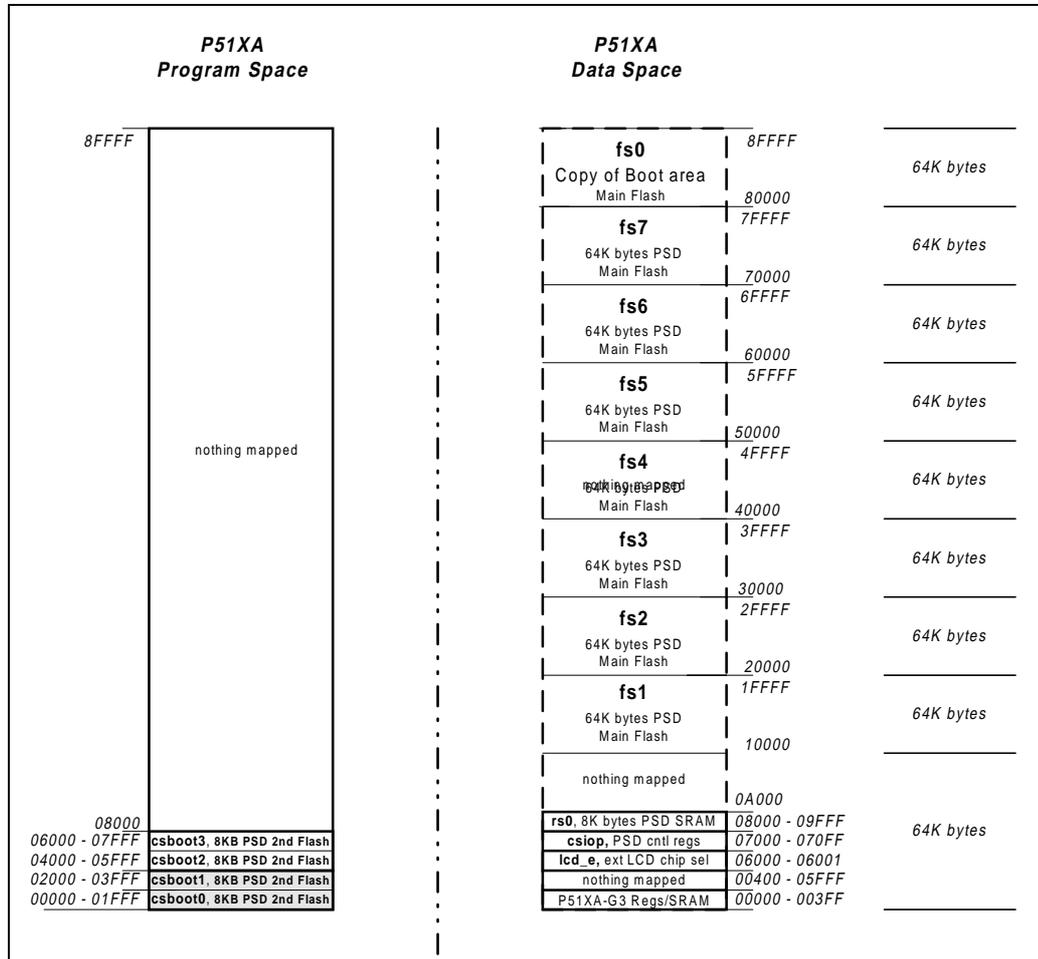
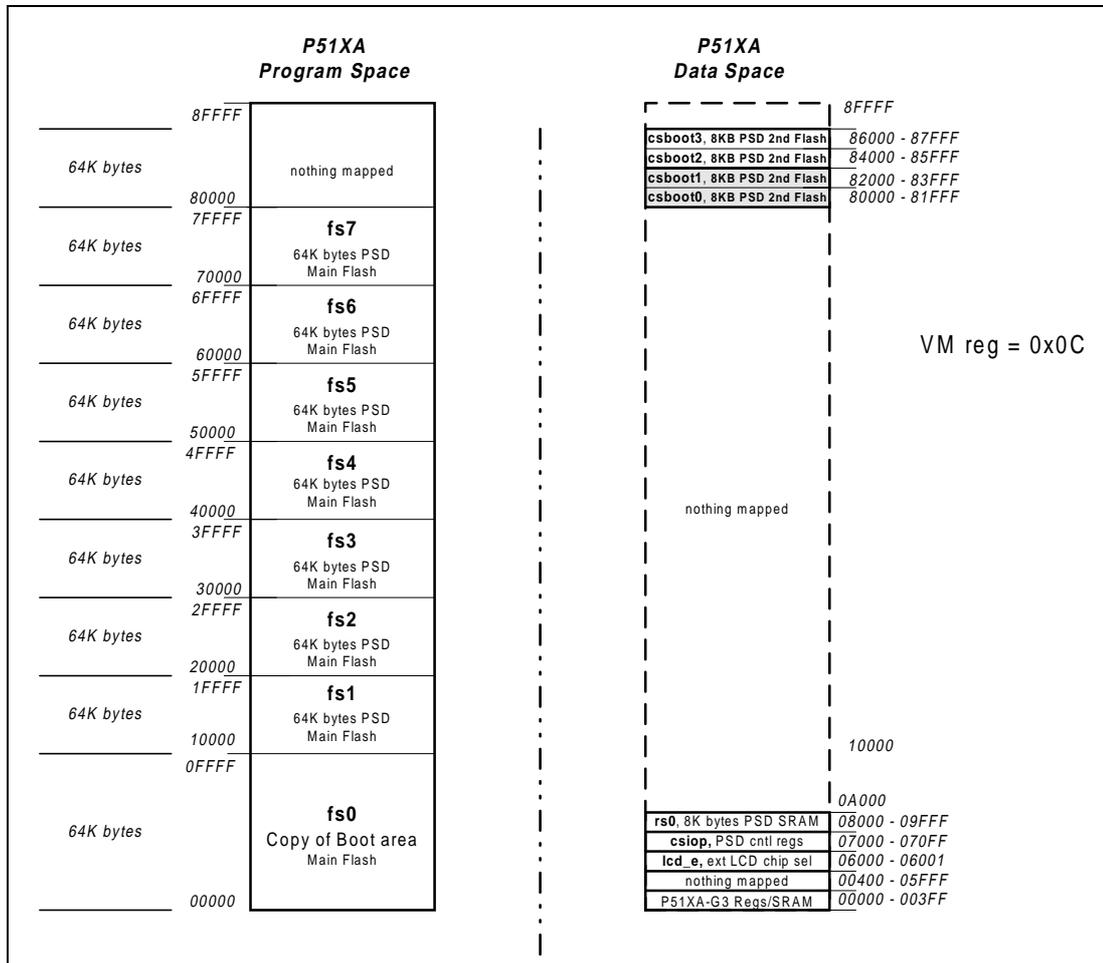

Figure 9 Memory map after running of htestXA.obj
Figure 10 Memory map for alternate memory boot
Note that the logic variable (bit) controlling the actual location of the memory is “`exe_src_a`”. When this bit is zero (0), the memory segments are as shown in Figure 9. When `exe_src_a` is one (1), FS0 appears in the execution location as shown in Figure 10, and the `csboot` areas are not in the map at all. The physical location of this logic bit, `exe_src_a`, is in the bit6 position of the PAGE register. Actually this bit can be anywhere, the only important element is that it is contained in the PLD equations, as shown above, and accessible by the MCU. Control of this bit is via a board mounted dip switch.